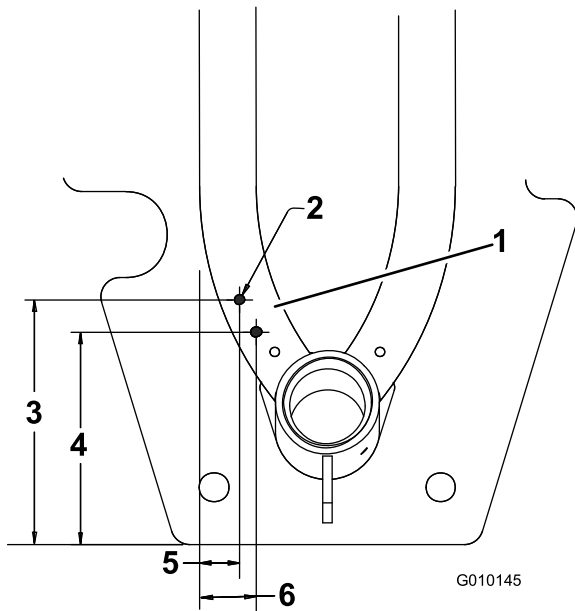

Figure 7
9. Using the bulkhead bracket as a template and dimensions shown in Figure 7, locate, mark, and drill 2 holes (0.281 inch) into the frame tube. Dimensions shown in Figure 7 are for location reference of the bracket.
Note: Figure 7 is shown as viewed from under machine.